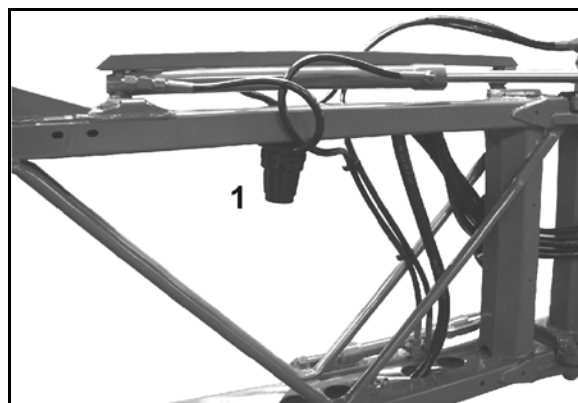

Fig. 195
- Clean the line filters (Fig. 195/1) 3 - 4 months depending on operating conditions).